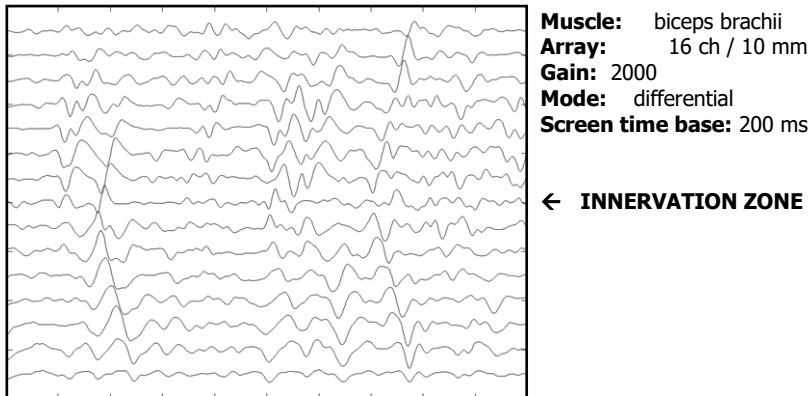

FIG. 11: Example of a good quality EMG signal detected in single differential mode
- Ask the patient to contract his muscle to about the 20%-50% of his maximum voluntary contraction level and look at the signal quality on the PC screen. With respect to the position of the array to the innervation zone(s) and to the level of the contraction, it should be possible to observe a signal like that in FIG. 11, in which are present several action potentials (*MUAP*) that are propagating along the muscle fibers.